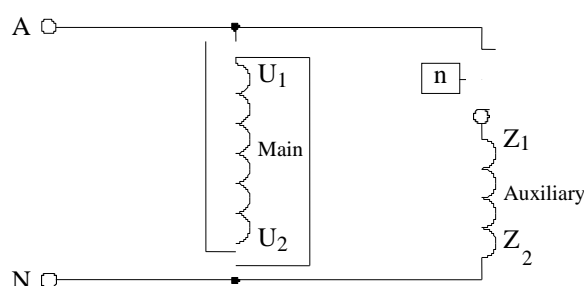

Figure 3
3. To reverse the motor direction of rotation, reconnect as shown in figure 3.